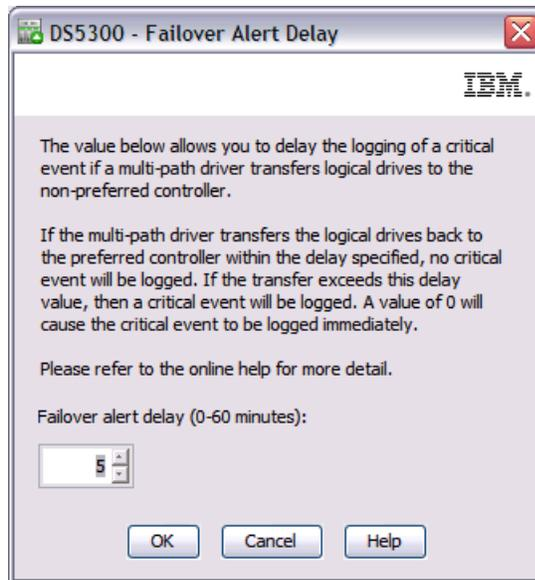

Figure 3-51 Failover alert delay window
2. In the Failover Alert Delay dialog box opens, as shown in Figure 3-51. Enter the desired delay interval in minutes and click **OK**.